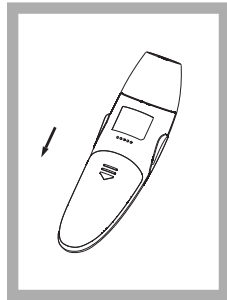

Figure 13
2. Slide battery cover down as shown in Figure 13.